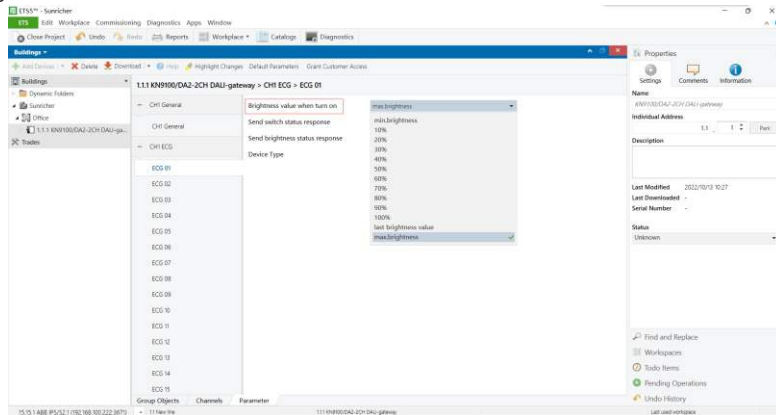

Figure 31
**Brightness value when turn on:** means brightness value when the ECG is turned on, drop down and tick a value, available settings are “10%-100%”, “min. brightness”, “max. brightness”, and “last brightness value” as shown in Figure 31.